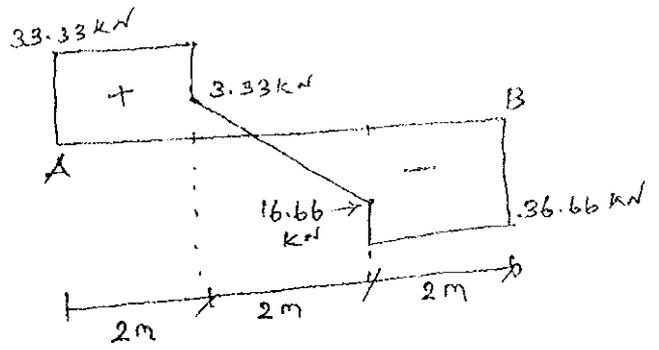

FIG. 2
23 (a) Fig.2 (refer page 4 of 4) shows the shear force diagram of a beam with simple supports at 'A' and 'B'. From the shear force diagram, obtain the loading that acts on the beam and also plot corresponding bending moment diagram on the tension side of the member. (16)